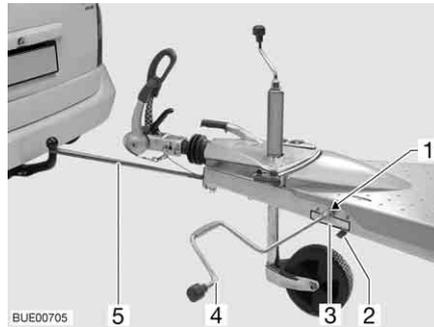

Fig. 4 Hitching device Easy-Pull
- Push the locking lever (Fig. 4,2) to the open position.
- Pull the belt with the hook (Fig. 4,5) out towards the front, lay it around the ball neck of the caravan coupling of the towing vehicle and secure it.
- Push the locking lever (Fig. 4,2) to the close position.
- Attach the crank for the corner steadies of the caravan (Fig. 4,4) to the hexagon nut (Fig. 4,1) of the cranking mechanism and start cranking. Crank in the rotational direction indicated on the label (Fig. 4,3).